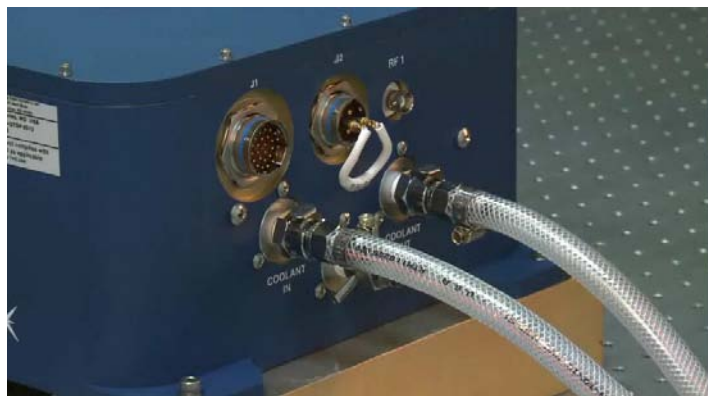

Figure 4-5. Plumbing Connection
1. Connect plumbing. As shown in Figure 4-5, push the barb fittings of water hose connectors gently into the coolant in and coolant out ports by following the flow path direction. Wetting the o-rings of the quick disconnect fittings and receptacles can prevent the o-ring from being damaged. Make sure that the quick disconnect fittings are locked by listening for a clicking sound.